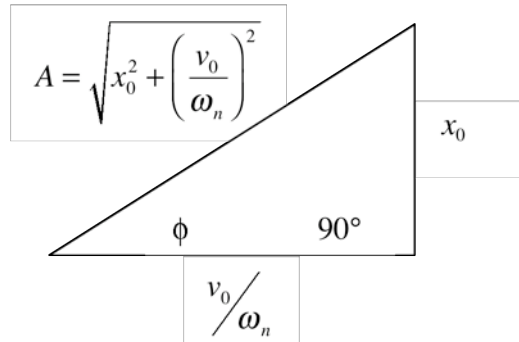

Figure 1.6
1.10 Using Figure 1.6, verify that equation (1.10) satisfies the initial velocity condition.